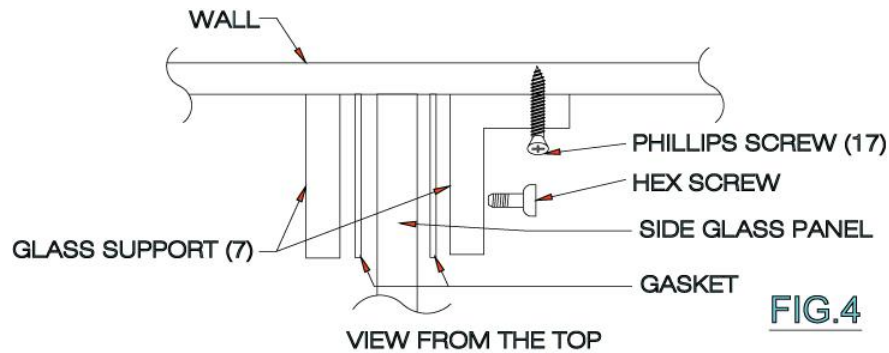

FIG.4
7. Replace the side glass panel. Screw into the wall with 2" screws (#16). [SEE FIG.4]